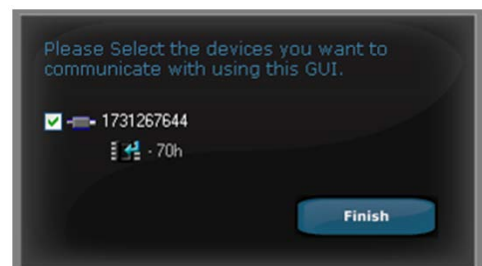

Figure 8. Getting Started.
6. Launch the **ADP1051.exe** file. The GUI software should report that the **ADP1051** has been located on the board as shown in Figure 8.